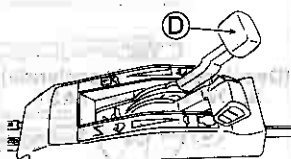

Fig. 19. (W721 / W721PRO)
5 Adjust the mowing speed with Gearshift lever (D). (See Fig. 19.)